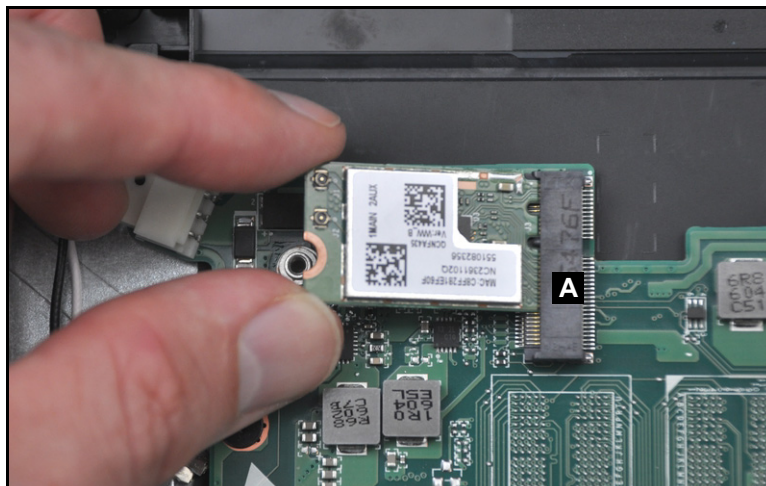

Figure 3-103. Replacing the WLAN Module
1. Place and insert the WLAN module into the mainboard connector (A) (Figure 3-103).